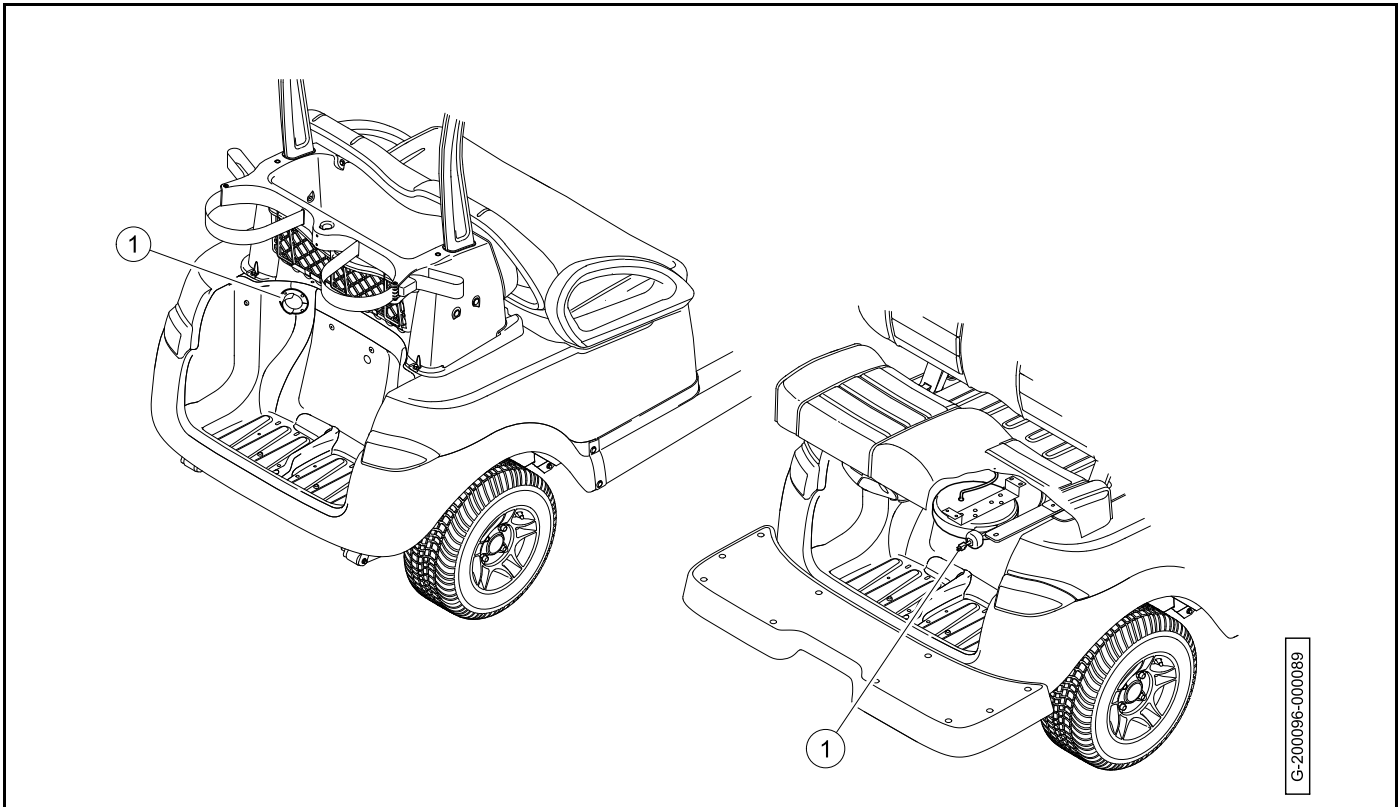

Figure 15-6 Left: Two Passenger (Shown) and Lifted / Right: Non-Lifted Fixed and Fold-Down Seat
3. Connect the AC cord (1) to the power source (**Figure 15-6**).